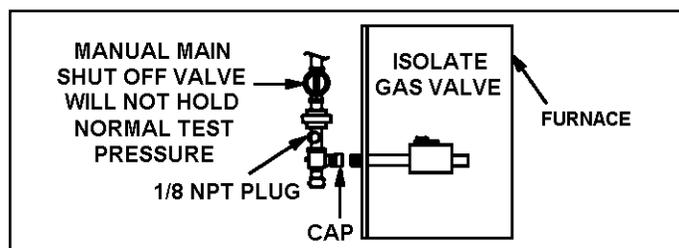

Figure 18.
5. A 1/8" N.P.T. plugged tap or pressure post is located on the gas valve to facilitate test gauge connection. See Figure 18.
When testing pressure of gas lines, gas valve must be disconnected and isolated. See Figure 18. Gas valves can be damaged if subjected to pressures greater than 1/2 psig (3.48 kPa, 14 inches w.c.).